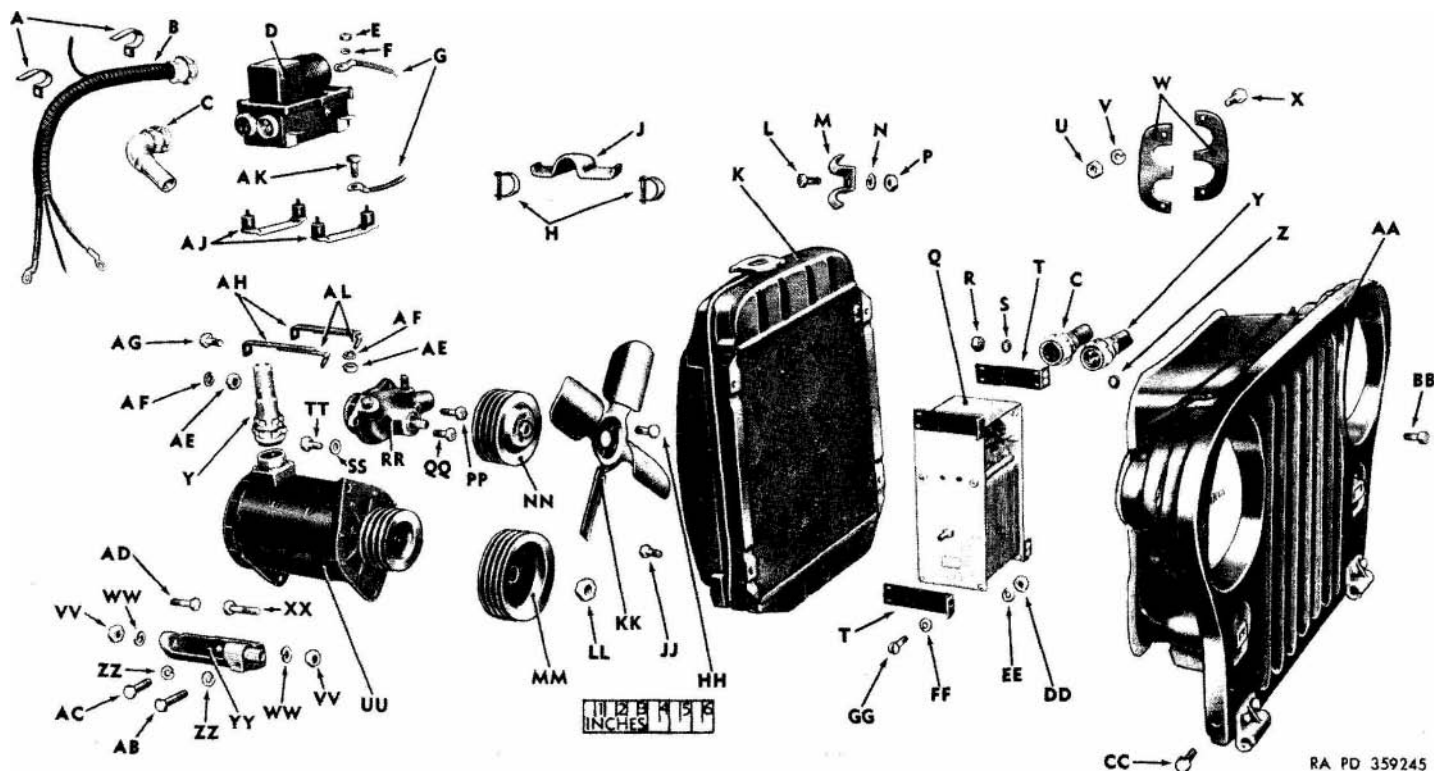

Figure 198. Exploded view of kit and components of vehicle.
*Note.* The capitalized key letters shown below in parentheses refer to figure 198.